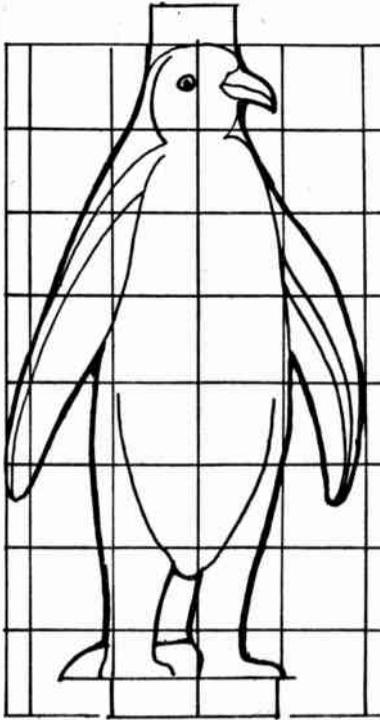

Fig. 5—Outline of the figure
each must be carefully marked out and the centres bored with a  $\frac{1}{4}$ in. twist drill. They are then ready for the bars which consist of  $\frac{1}{4}$ in. round dowelling. At (A) in Fig. 4 are given the correct spacings to be set out with the shallow mortise (C) in the lower rail, for the penguin panel which is fretted and coloured up as shown in detail in Fig. 5. As this panel will be of  $\frac{1}{4}$ in. wood, the actual size of the mortise must be 2ins. by  $\frac{1}{4}$ in. In the upper rail, however, the mortise will be
The panels of wood for the penguins must be nearly  $8\frac{1}{2}$  ins. long by 5 ins. wide. Over one of them, draw 1 in. squares and the outline as shown in Fig. 5. Cut round with the fretsaw and clean up the edges. Then lay this cut-out on the second panel and mark round it with a sharp pencil.